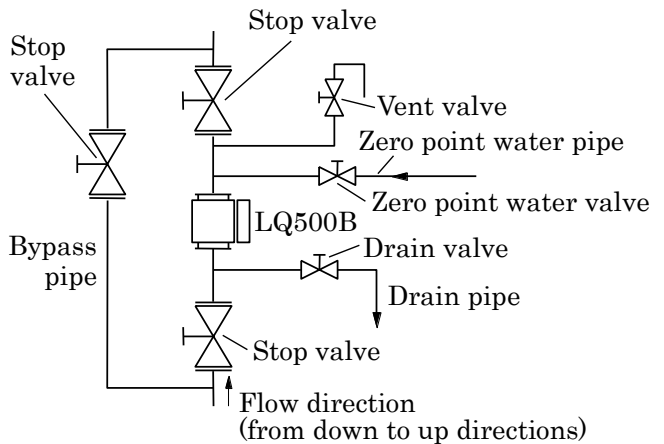

Figure 6. Recommended Installation (vertical installation)
- (9) To minimize the impact of the bubbles, it is recommended that the meter be installed in a location as far as possible from the pipe outlet for air release but still within the distance where a reasonable degree of hydraulic pressure is applied.
- (10) In the event that the density meter may no longer be full of the fluid while the pump is shut down or the density distribution in the density meter may become uneven, make sure to take measurements only while the pump is operating by using the external synchronized function.
- (11) Take necessary measures to prevent vibration from a pump or other equipment applied to the density meter transmitted through the piping.
- (12) On both the upstream and downstream sides of the density meter, install isolation valves. Furthermore, between these valves and the density meter, install the sampling port, the zero water supply port, the air release port, and the drain port with a stop valve attached respectively. In the event that the flow of the pipeline cannot be stopped, provide a bypass pipe halfway with a stop valve attached. When performing zero point calibration, these are needed to discharge the measured matter out of the density meter through its drain port and fill up the meter with fresh water of zero density. (See Figure 6 and Figure 7)
- (13) As for gaskets to be used in piping, select the one with the dimension conforming to the flange standard and of the material appropriate for the substance to be measured.
- (14) The front side of the density meter's converter section is equipped with a density display section. When installing the meter, choose a location and direction in which this density display section will be easily visible.
- (15) If the cover of the density meter is removed or the density meter is disassembled while the meter is powered, radio waves will leak out. (However, the amount is about equal to PHS and one-tenth of mobile phones.)
- (16) For both horizontal and vertical piping systems, install a support stand under the density meter with bolts put through the installation holes (M8 size) on the bottom of the density meter. Then install the support stand together with the density meter to a solid ground or wall. Bolts (four M8 bolts) are not attached as accessories to the density meter. Please prepare these bolts separately